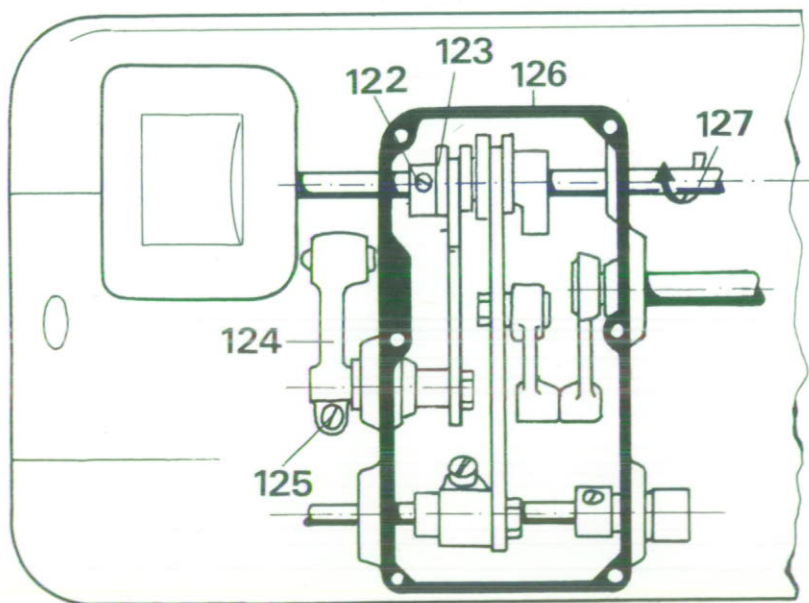

Fig. 35
Loosen screw (125) (Fig. 35) slightly and set feed dog to the prescribed value by turning the lifting lever (124). Gauge No. 398 024 03.
Adjustment (Fig. 35)